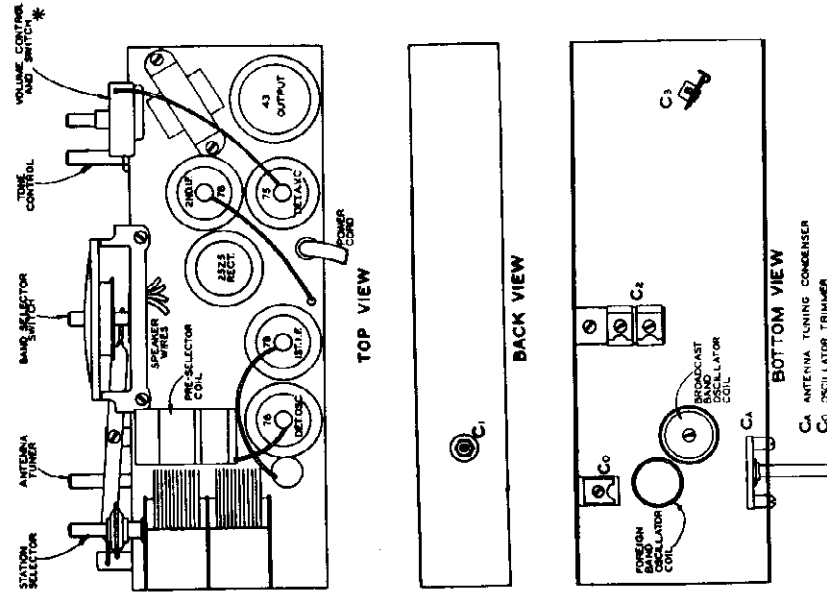

Fig. 6. CHASSIS DIAGRAM FOR SPARTON MODELS 65, 65-T, 66 AND 66-T
(2) Turn on receiver and test oscillator, and allow both to operate several minutes before attempting to align any condensers.
(4) Tune test oscillator to obtain signal of 456 kilocycles.
(5) Turn volume control of receiver on full, and place Band Selector Switch in Broadcast Position. Make sure condenser plates are turned all the way out.
(6) Adjust I-F condensers (C₁, C₂, and C₃). See Fig. 6.
(7) Disconnect "antenna" leads of test oscillator tube and connect to the antenna terminal of the chassis.
(8) Tune test oscillator to obtain a signal of 1500 kilocycles.
(9) Tune station selector of receiver to 1500 kilocycles. Also adjust antenna tuning condenser (C_A).